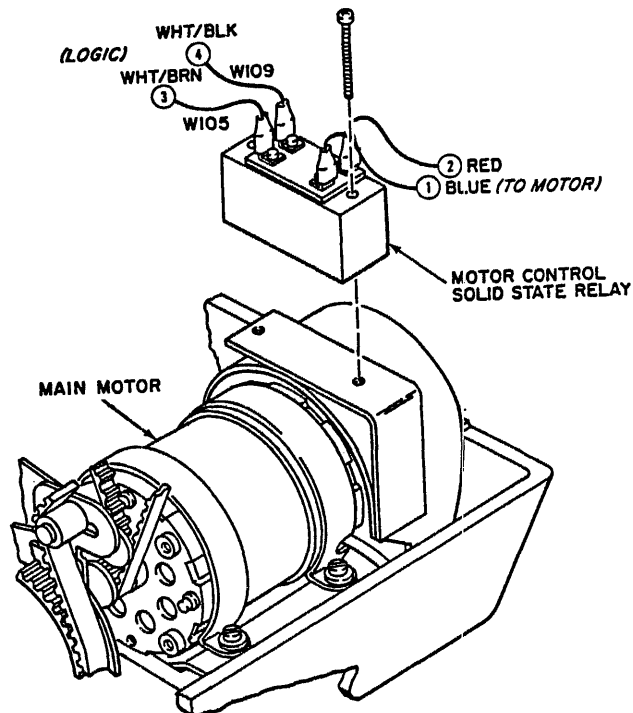

Figure 5-27. MOTOR CONTROL LOCATION AND INSTALLATION
1. Disconnect white/blk wire from terminal marked No. 4 on the motor control (Fig. 5-27).